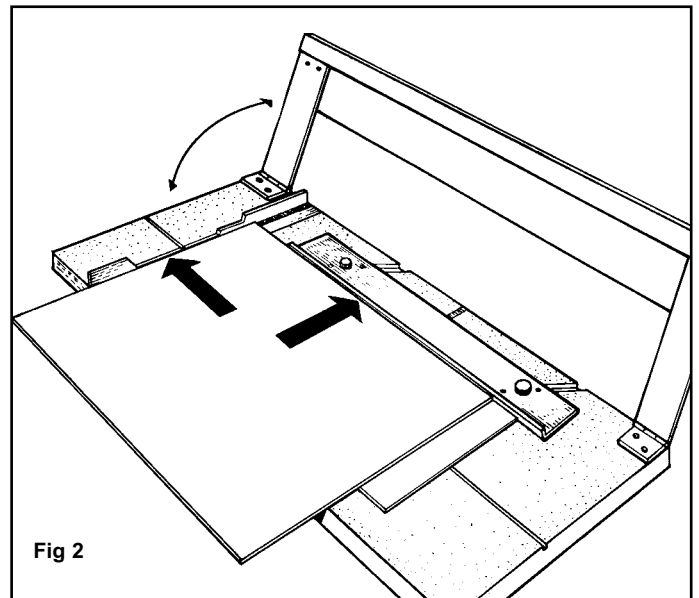

Fig 2
2. Place the mat to be cut into the machine colored side down with the backing sheet underneath and lower the guide rail. **Fig 2**